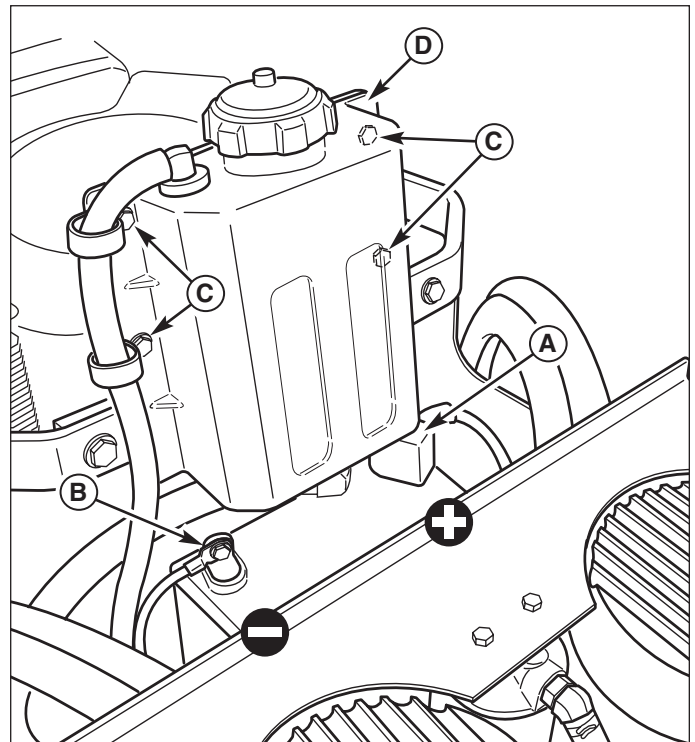

Figure 17. Battery Compartment
1. Remove the hydraulic oil reservoir mounting hardware (C, Figure 17) and move the reservoir (D) forward to expose the battery.
2. Disconnect the cables from the battery, negative (black) cable first (B).
4. Reinstall the battery and reattach the battery cables, positive (red) cable first (A).